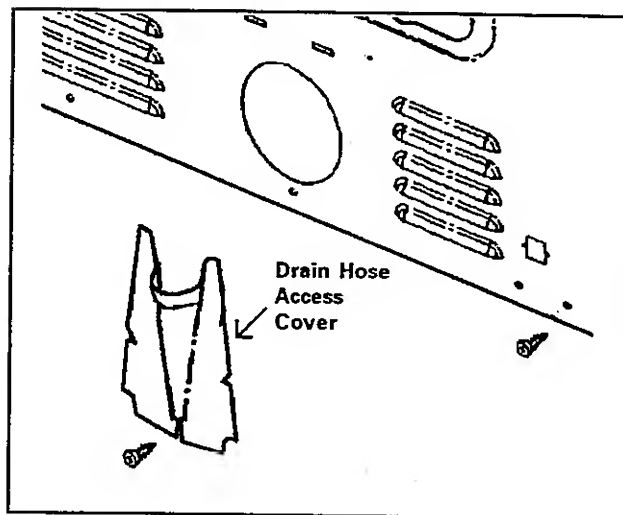

Figure 6-10
3. Remove the 1/4" hex-head screw securing the drain hose shield. Remove shield (Figure 6-10).